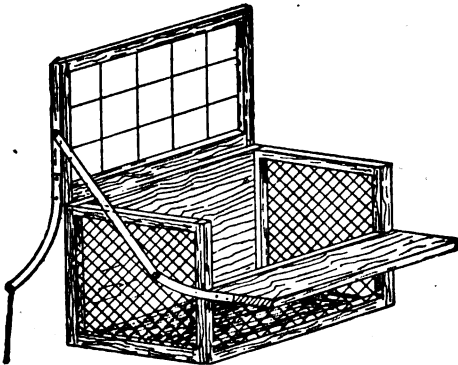
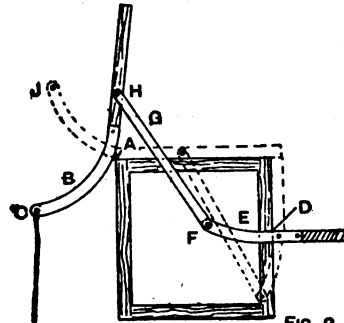

FIG. 1
FIG. 2
**Bending Angle Iron.**—A quick way to make corners in angle iron is to cut a V piece out of the bottom web (see Fig. 1). Scarf the two edges, bend the corner, and then weld up; before welding be sure to bend the corner a little more than the desired angle when finished (as shown by dotted lines) so as to allow for the corner opening during the welding up. If only an odd corner has to be made a tool like Fig. 2 will answer, but if a
**Pigeon Trap.**—Fig. 1 is a design for a pigeon trap, 2 ft. 10 in. long by 1 ft. 6 in. deep by 1 ft. 3 in. wide, the top to open by means of a pull y arrangement, and the front to drop. It is framed together with 1½-in. by 1½-in. deal, with a back of ½-in. matchboarding, and a bottom of ½-in. matchboarding. The lid may be framed together of 2-in. by 1-in. stuff, and either divided into 4-in. squares with wires, as shown, to enable the pigeons to get in when the trap is closed or catch any stray ones that may be about, or the lid may be boarded over. The front and sides are covered with wire netting, except the upper portion of the front, which falls down to form an alighting shelf when the trap is open, and closes up when the lid falls. Fig. 2 shows the arrangement for working the trap. The lid is hinged at A, and a lever B made of